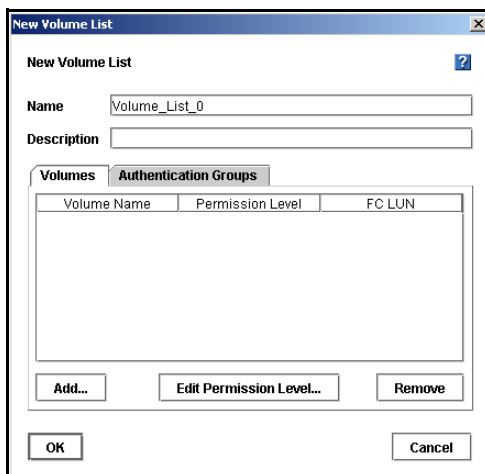

Figure 201. Creating a New Volume List
3. From the Tasks menu, select New Volume List. The New Volume List window opens, shown in Figure 201.
1. Select the Volumes tab, shown in Figure 201.